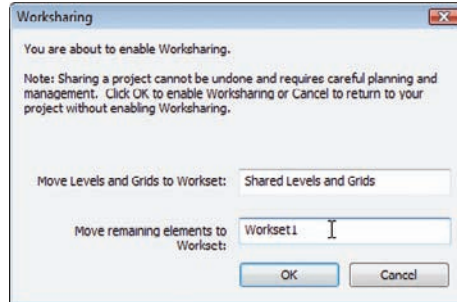

FIGURE 22.3 The Worksharing dialog
3. You will get a Worksharing dialog that welcomes you to the point of no return. Accept the defaults for Shared Levels And Grids and for Workset 1, as shown in Figure 22.3, and click OK.